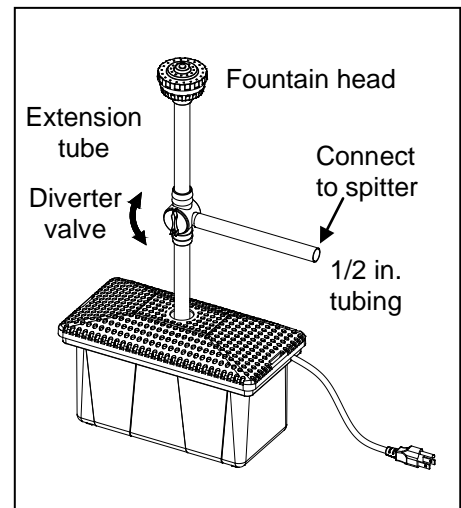

Fig. 11
11. Connect the fountain head to the top extension tube. Adjust the diverter valve to split the flow between the fountain head and the spitter. Fig. 11